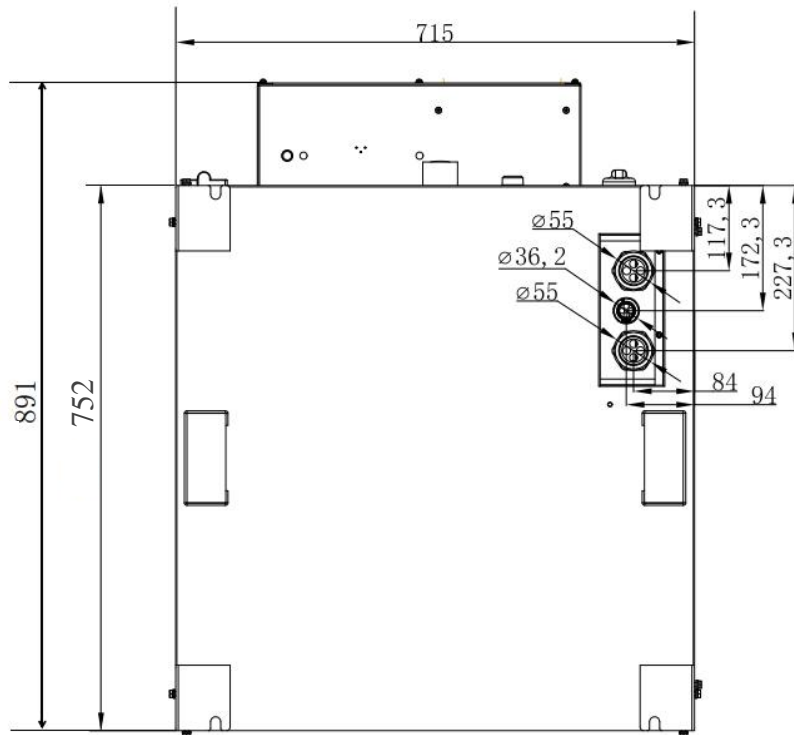
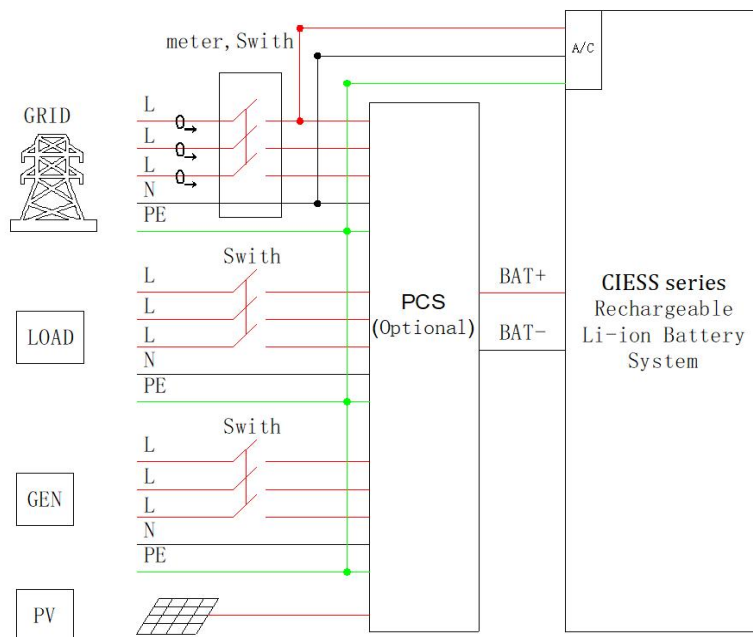
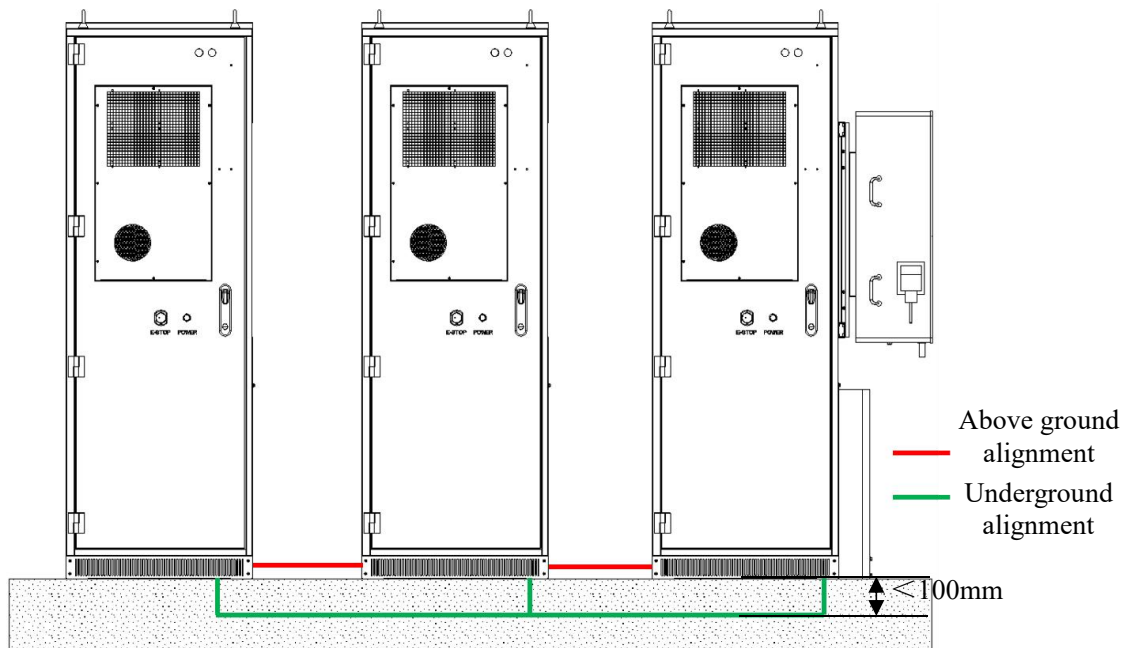

Figure 3.2.3 Positioning diagram of the routing holes at cabinet bottom
Figure 3.3.2 Outdoor cabinet wiring schematic
Figure 3.3.3 Parallel alignment of multiple cabinets
(1) The wiring schematic for the outdoor cabinet is shown above (Figure 3.3.2). When connecting electrical cables, the ground wire must be connected first in accordance with local regulations, and when removing the system, the ground wire should be disconnected last.
(2) Outdoor cabinets are available in both above ground and below ground routing. For above ground routing, the bottom side panels may be installed or removed as appropriate.
(3) If take the underground alignment (especially for the use of multiple cabinets and machines), pay attention to the reference to Figure 3.2.3 in the cement foundation to reserve the alignment groove, the depth of the alignment groove should be less than 100mm (Figure 3.3.3).